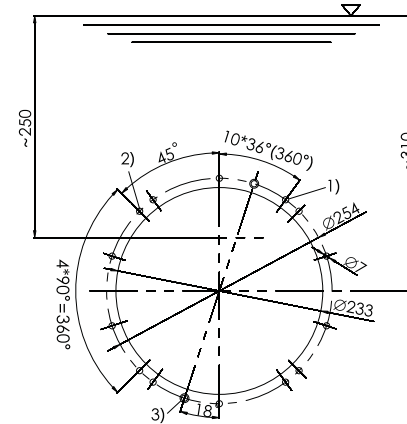

Figure 5
- For vinyl pool, according to the 16 holes on the counter current jet shell, first drill holes on the structural wall accordingly. (Figure 5)
- Install the plastic ring and the outer shell with 2 M6*20 screws (hole 3 of Figure 5), and then install the plastic ring and ring for installing on the fiber pool using 10 M6*45 screws .(Figure6)